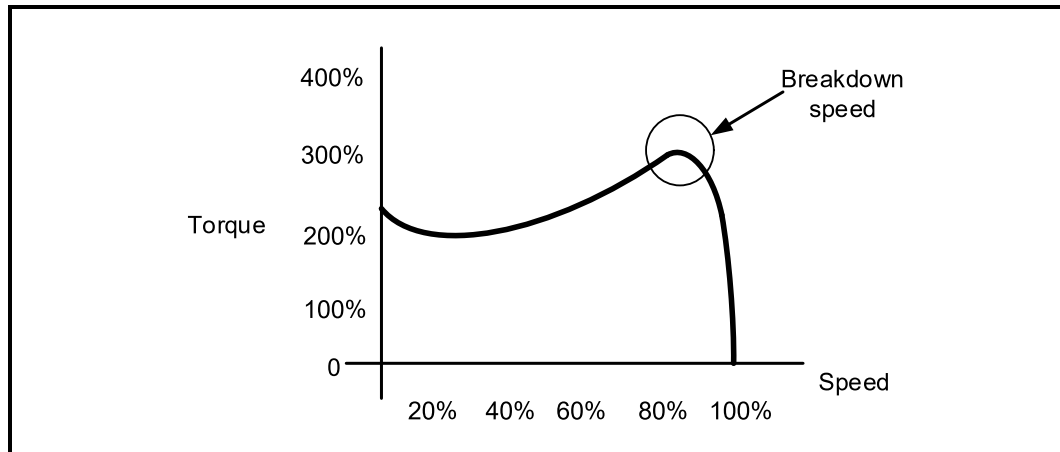

FIGURE 7.7: TORQUE VERSUS SPEED CURVE
- 7.7 FIGURE 7.7 below shows the characteristic curve of speed versus torque when a VSD is used to control the speed of a three-phase induction motor. Study the characteristic curve and describe the start-up and run profile of an induction motor.